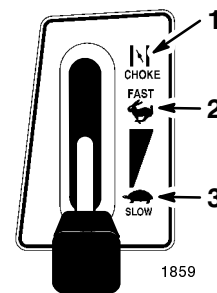

Figure 8
4. Move the throttle lever to “CHOKE” (Fig. 8).
6. After the engine starts, slowly move the throttle lever to “FAST” (Fig. 8). If the engine stalls or hesitates, move the throttle lever back to “CHOKE” for a few seconds. Then move the throttle lever to “FAST.” Repeat this as required.
1. Move the throttle lever to “FAST” (Fig. 8).